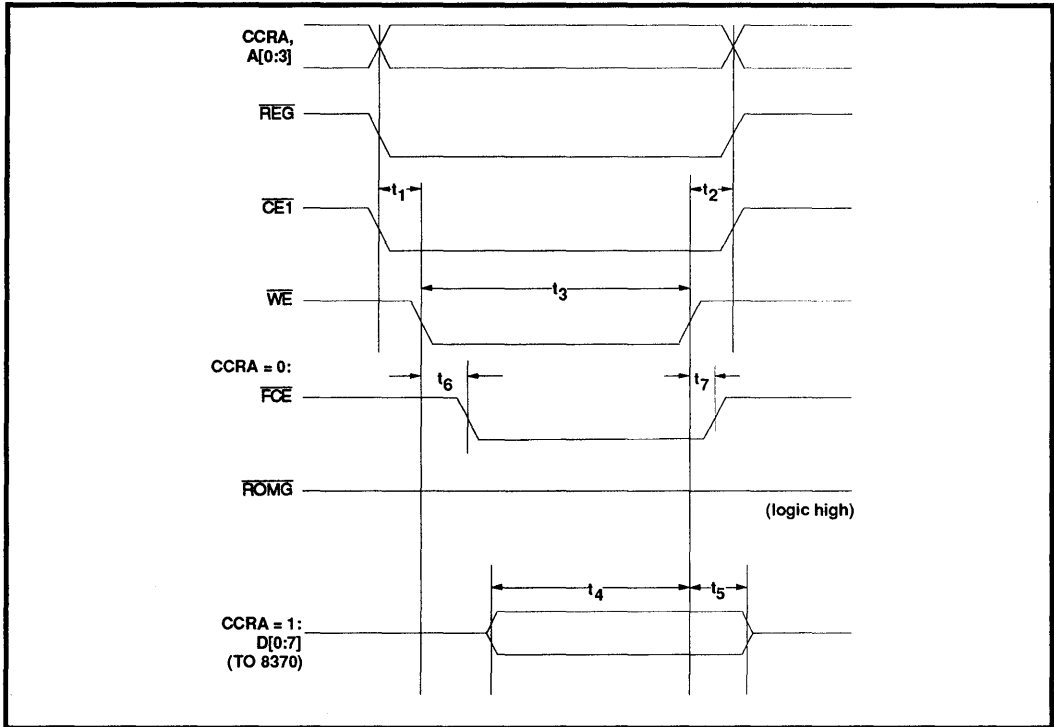

FIGURE 3: Attribute Memory Write Cycle (PCMCIA mode)
**TABLE 2: Attribute Memory Write Cycle (PCMCIA MODE) (Refer to Figure 3)**